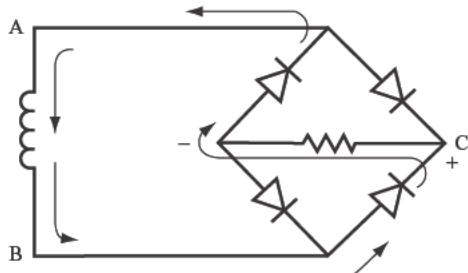

FIGURE 11.19
- Figure 11.19 shows the direction of current flow when the voltage at point B is positive.